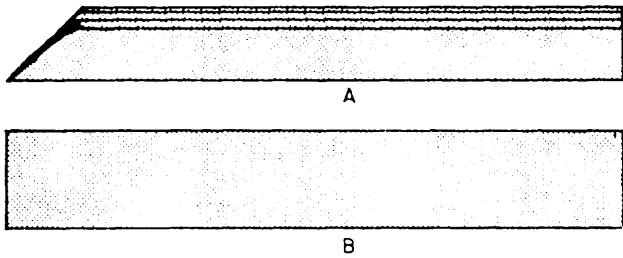

Figure 1-23.—Straightedge.
**STRAIGHTEDGES.**—Straightedges look very much like rules, except they are not graduated. They are used primarily to check surfaces for straightness; however, they can also be used as guides to help draw or scribe straight lines. Two types of straightedges are shown in figure 1-23. View A shows a straightedge made of steel that is hardened on the edges to prevent wear; it is the one you will probably use most often. The straightedge shown in view B has a knife edge and is used for work requiring extreme accuracy.